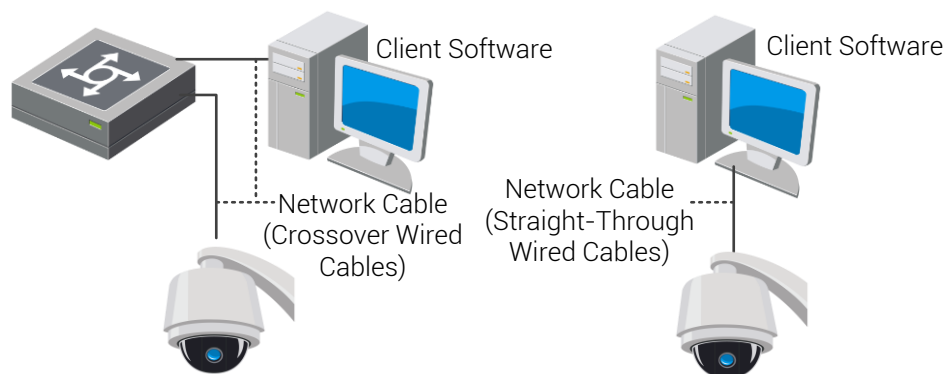

Figure 4-1 Connecting Directly
- After completing the installation of master-slave tracking system, you need to set the function configurations and related parameters. Make sure that the system is properly connected with your PC. Two methods are available for the system connection, as shown in Figure 4-1.